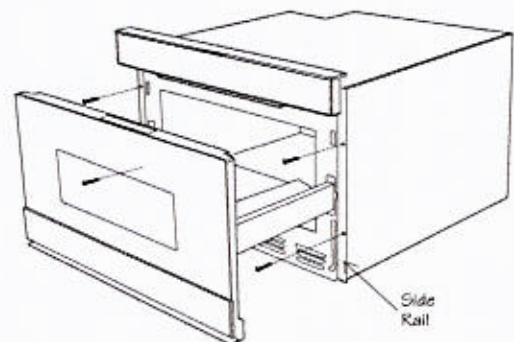

Figure 10
3. Slide the drawer all the way until the mounting flange is flush with the face of the cabinet. See Figure 10.
4. Open the drawer. Using the 4 holes on the drawer as a template, pre-drill the cabinet using a $1/16$ " bit. See Figure 10.